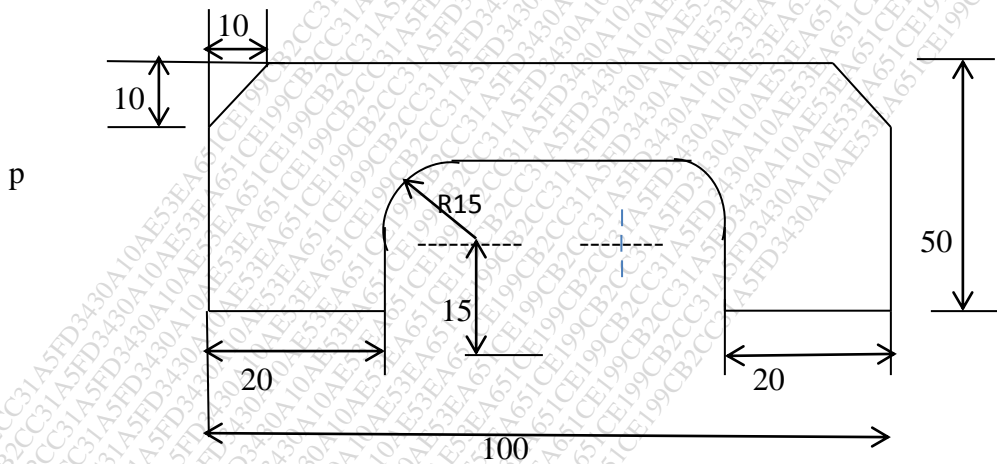

Fig.1
Q.4 Design, draw and dimensions a drill jig to drill a 4 holes of $\phi 8\text{mm}$ on PCD 60 in a finish component shown in fig.1 16
- Q.9 A profile milling operation is to be performed to generate the outline of the part as shown in fig.1. 13